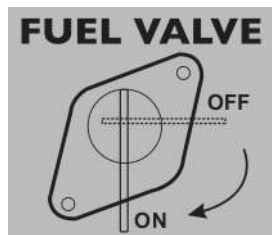

Figure 4 - Fuel Valve
4. Turn the fuel valve to the “ON” position (See Figure 4).